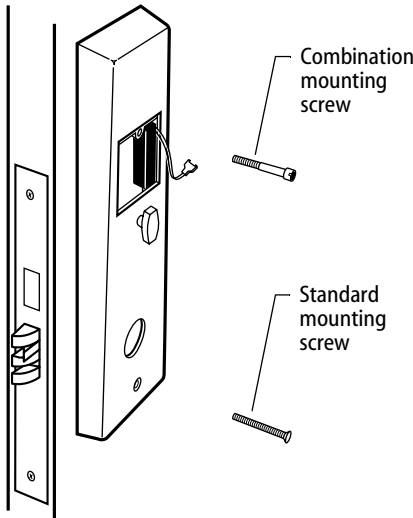

Figure 12
- 3 Tighten the trim mounting screws (see Figure 12).
- 4 Tighten the trim mounting screws (see Figure 12).